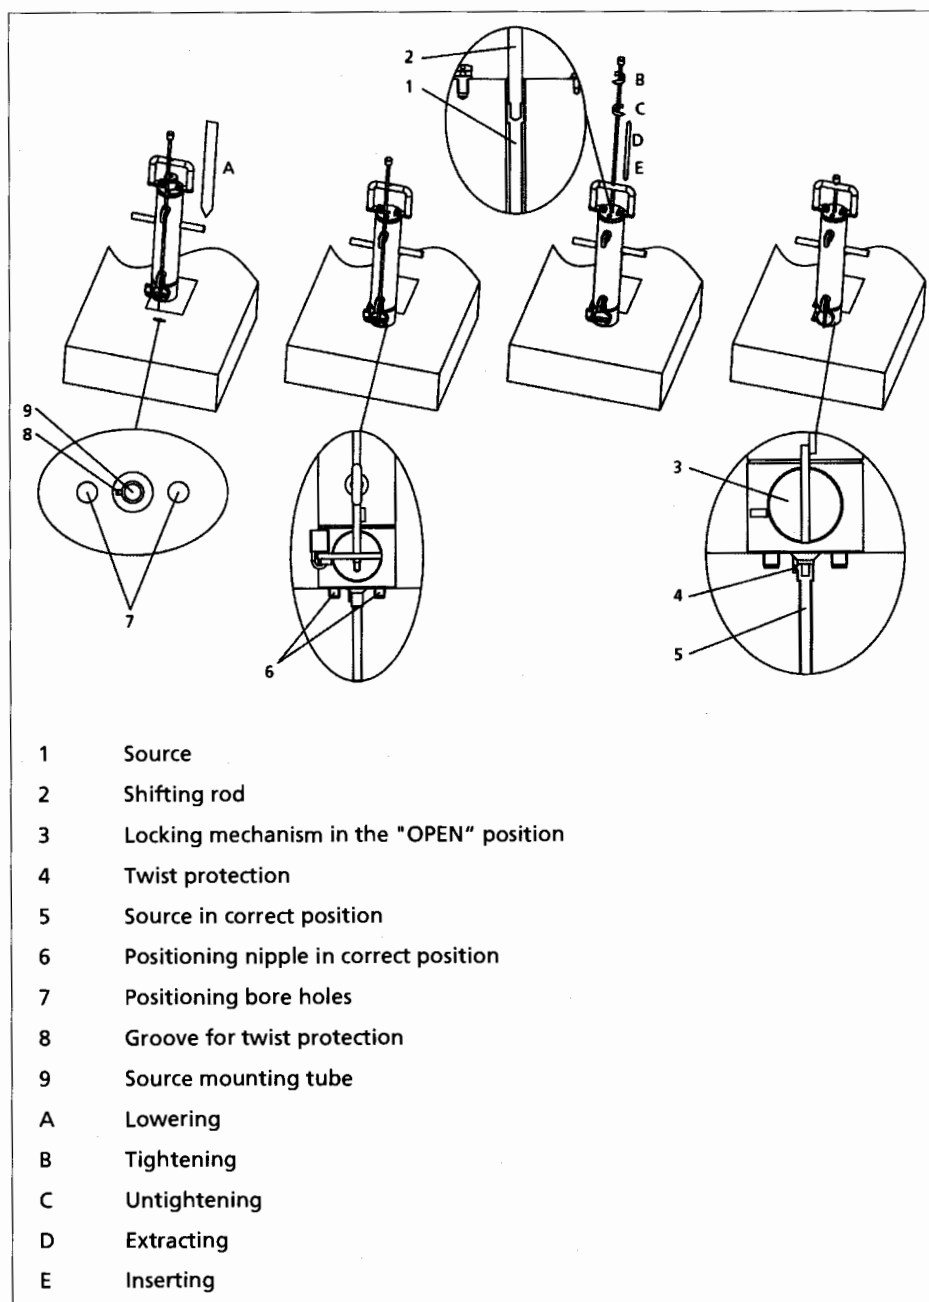

Fig. 8 Mounting the source
3. Direct the transfer shielding above the protective tube in a way that the positioning nipples (Fig. 8, pos. 6) fit into the positioning bore holes (Fig. 8, pos. 7) at the mould side.
5. Remove the shifting rod (Fig. 8, pos. 1,2) from the bracket and, from above, screw it into the head of the source within the transfer shielding.
6. Open the locking mechanism of the shielding (Fig. 8, pos. 3) and carefully insert the source into the protective tube within the mould by means of the shifting rod (Fig. 8, pos. 1, 2).
7. Ensure that the entire source is located within the protective tube (Fig. 8, pos. 5) and that the pin of the twist protection at the head of the source latches into the respective groove (Fig. 8, pos. 4).
8. Unscrew the shifting rod from the source and pull it upwards, out of the transfer shielding (Fig. 8, pos. 1, 2).